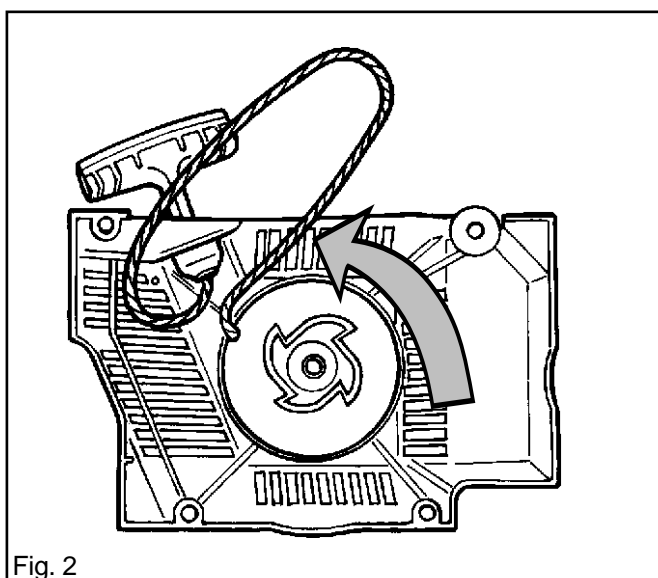

Fig. 2
2. Pull out the handle 20-30 cm and lift out the cord from the slot in the cord pulley. See fig. 2.
6. Remove the spark plug and fit the piston stop tool in the spark plug hole. See fig. 2.